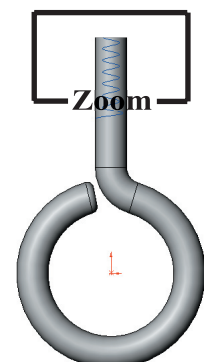

Fig. 21
Step 3. Use the **Zoom to Area**  in the View toolbar to drag a zoom window around the **top end of the eye screw**, Fig. 21.